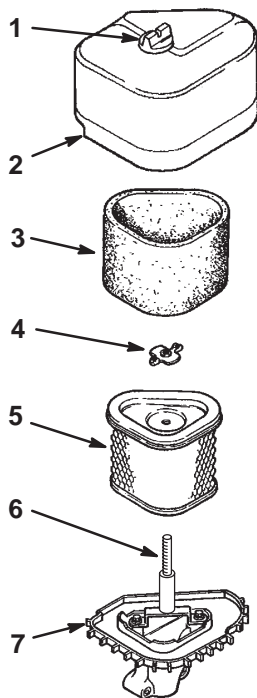

Figure 21
2. Clean around the air cleaner to prevent dirt from getting into the engine and causing damage. Unscrew the knob and remove the air cleaner cover (Fig. 21).
3. Remove the wing nut and slide the foam and paper air cleaner assembly off of the stud (Fig. 21).
4. Carefully slide the foam element off of the paper element (Fig. 21).
1. Carefully slide the foam element onto the paper air cleaner element (Fig. 21).
2. Place the air cleaner assembly onto the air cleaner base (Fig. 21).
3. Install the air cleaner cover and secure it with the cover nut (Fig. 21).